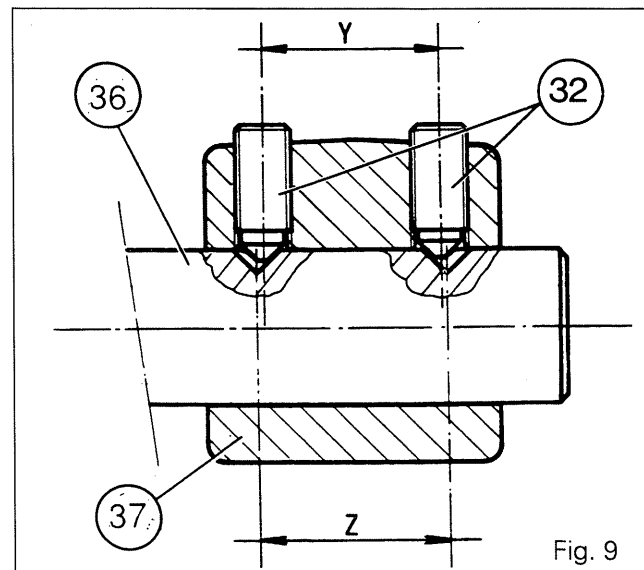

Fig. 9
We obtain a different displacement of the fork by acting on screw (32) (front or rear), depending on the setting desired Fig. 9.
55. Fit the fork (37), locking plunger (33), spring (34) and plug (35) and tighten to a torque of 50 - 70 Nm.
56. Fit the screws (32) coated with Loctite 221.
59. Repeat the operation, the fork locked rearwards. Check that a clearance exists between the synchro rings and the fork pads. If not set the fork by acting on screws (32).